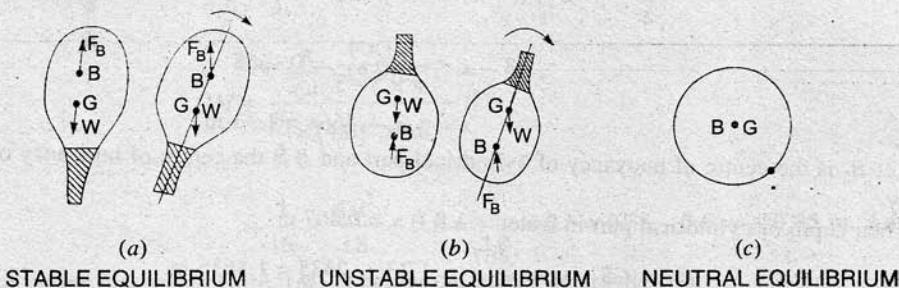

Fig. 4.12 *Stabilities of sub-merged bodies.*
**4.7.1 Stability of a Sub-merged Body.** The position of centre of gravity and centre of buoyancy in case of a completely sub-merged body are fixed. Consider a balloon, which is completely submerged in air. Let the lower portion of the balloon contains heavier material, so that its centre of gravity is lower than its centre of buoyancy as shown in Fig. 4.12 (a). Let the weight of the balloon is  $W$ . The weight  $W$  is acting through  $G$ , vertically in the downward direction, while the buoyant force  $F_B$  is acting vertically up, through  $B$ . For the equilibrium of the balloon  $W = F_B$ . If the balloon is given an angular displacement in the clockwise direction as shown in Fig. 4.12 (a), then  $W$  and  $F_B$  constitute a couple acting in the anti-clockwise direction and brings the balloon in the original position. Thus the balloon in the position, shown by Fig. 4.12 (a) is in stable equilibrium.
(b) **Unstable Equilibrium.** If  $W = F_B$ , but the centre of buoyancy ( $B$ ) is below centre of gravity ( $G$ ), the body is in unstable equilibrium as shown in Fig. 4.12 (b). A slight displacement to the body, in the clockwise direction, gives the couple due to  $W$  and  $F_B$  also in the clockwise direction. Thus the body does not return to its original position and hence the body is in unstable equilibrium.
(c) **Neutral Equilibrium.** If  $F_B = W$  and  $B$  and  $G$  are at the same point, as shown in Fig. 4.12 (c), the body is said to be in Neutral Equilibrium.